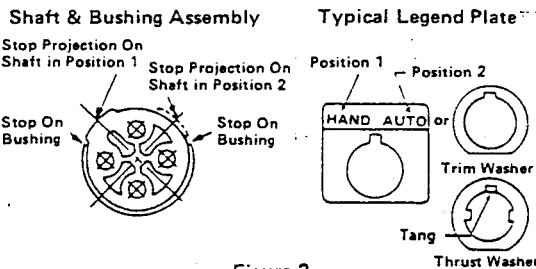

Figure 2
- With the help of the diagram shown in Figure 2, determine the switch setting. (Note the position of the stop projection on the shaft with respect to the opening in the bushing.)